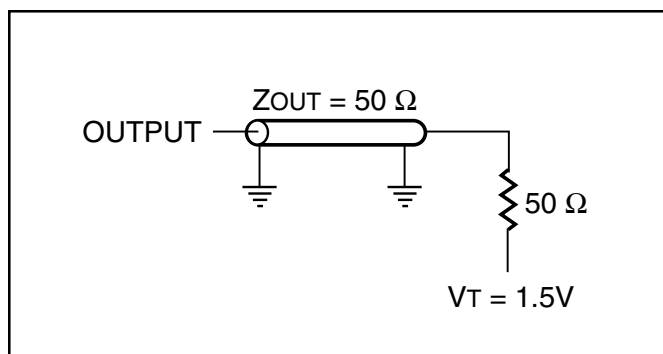

Figure 1
1. Test conditions assume signal transition times of 3 ns or less, timing reference levels of 1.5V, input pulse levels of 0 to 3.0V loading specified in Figure 1.
| Output Load | See Figures 1 and 2 |
1. Test conditions assume signal transition times of 3ns or less, timing reference levels of 1.5V, input pulse levels of 0 to 3.0V and output loading specified in Figure 1.